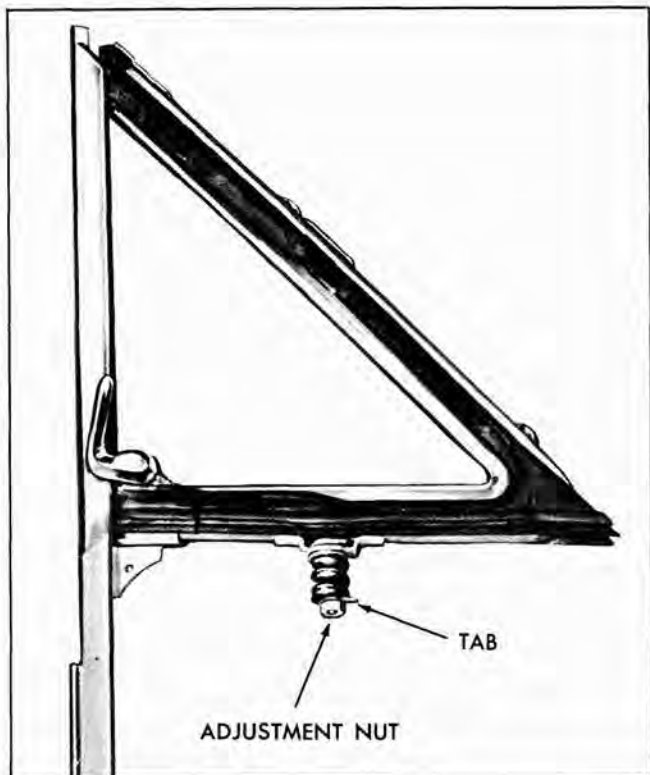

Fig. 13-18 Ventilator Friction Adjustment
2. The effort required to open or close the ventilator may be increased or decreased by straightening washer tab and tightening or loosening the adjusting nut (Fig. 13-18).